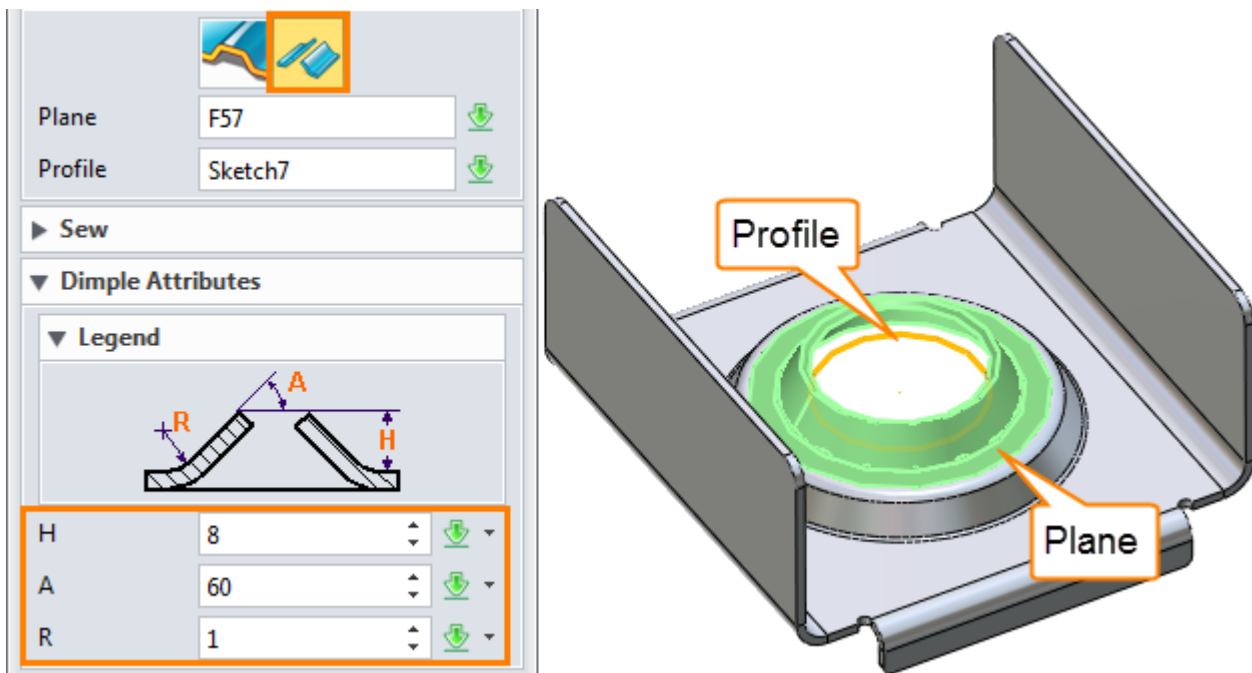

Figure75 Flare Dimple
STEP 01 Select the plane and a sketch as the louver profile. Set the suitable louver parameters, as shown in Figure 75.